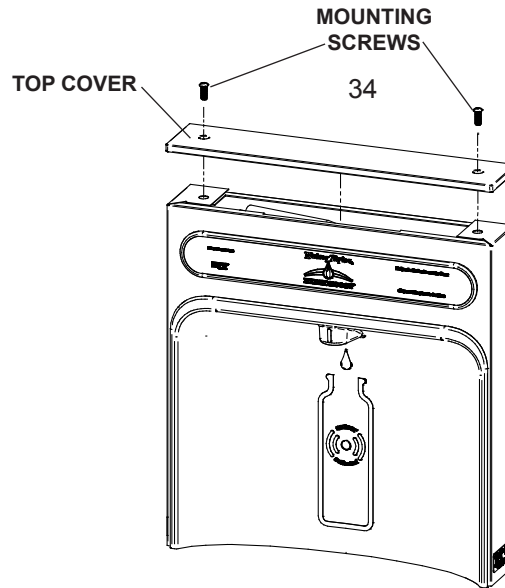
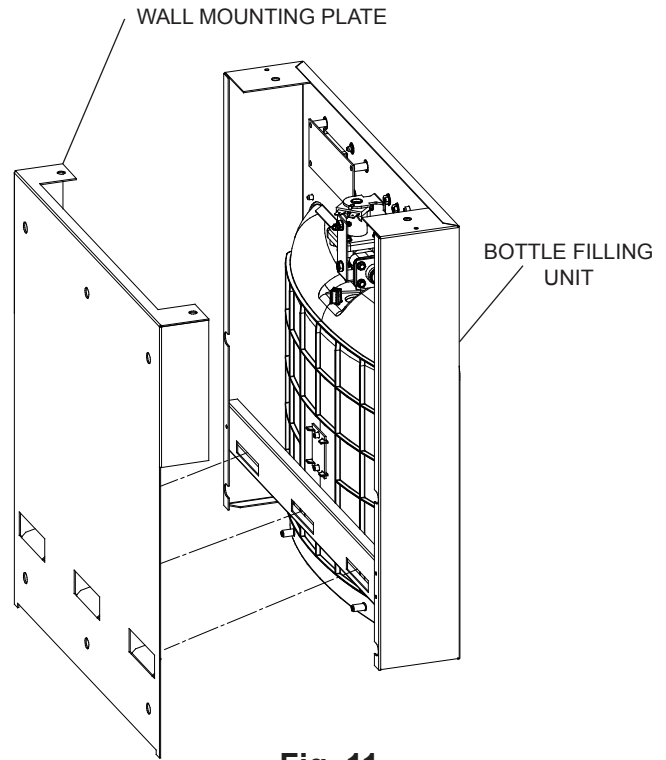

Fig. 7
Fig. 11
- 8) With the power cord and waterline through hole on top of water cooler place Bottle Filler on the three (3) angled tabs protruding from the wall mounting plate installed on wall. Make sure round boss in gasket fits in hole of basin. (See Fig. 11).
- 9) Once Bottle Filler is installed on wall plate tabs, water line and power cord are installed properly, push top of Bottle Filler toward wall and line up top cover two (2) holes.
- 10) Reinstall Top Cover on Bottle Filler (See Fig. 7) with two mounting screws from step 1 above. Caution, do not over tighten screws.